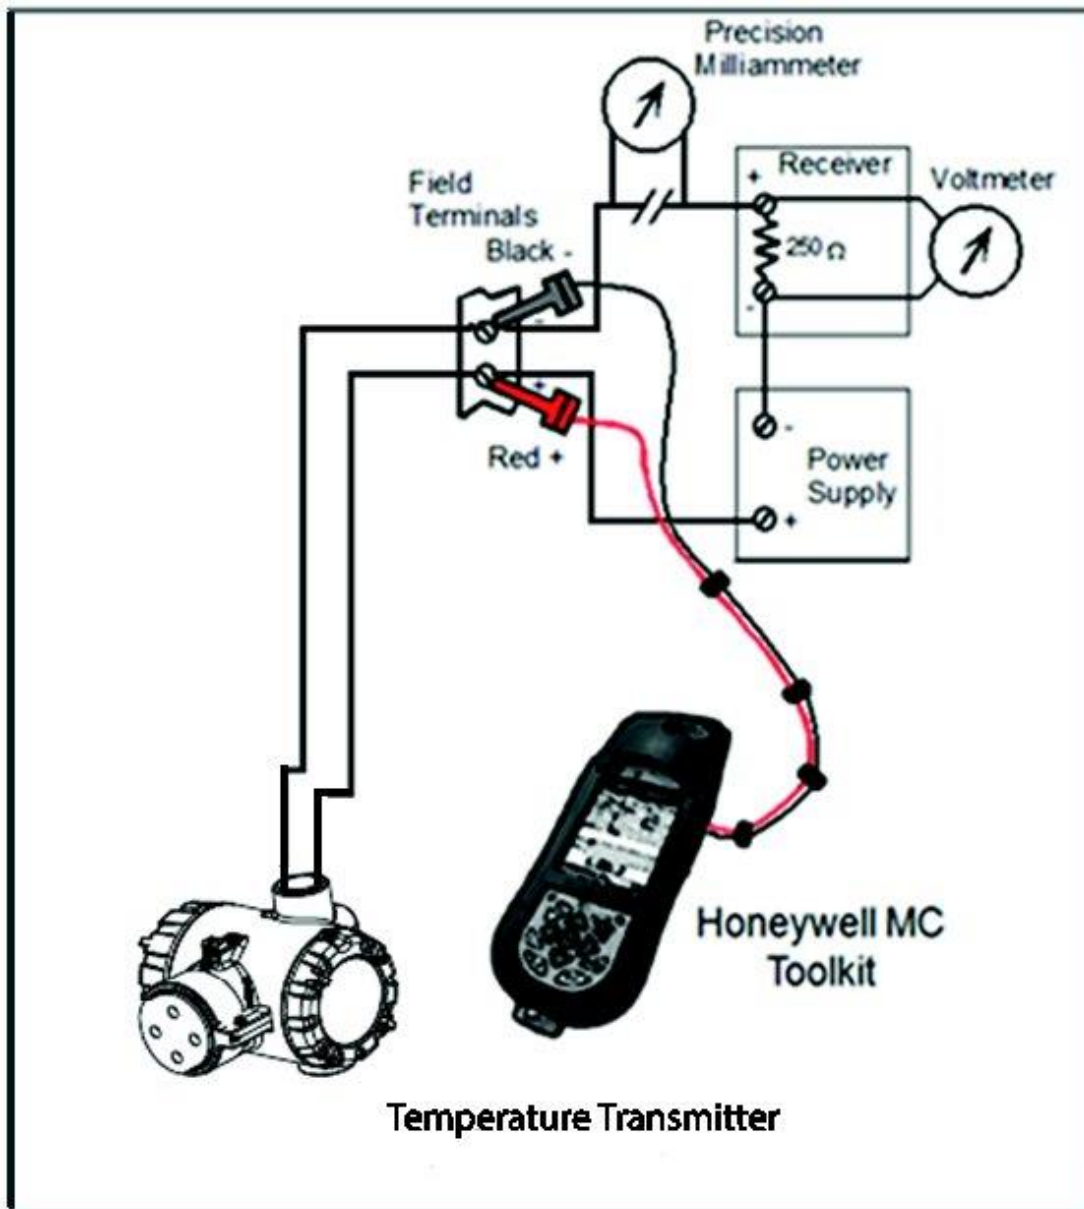

Figure 20 – Current Loop Test Connections
1. Refer to Figure 20 for test connections. Verify the integrity of electrical components in the output current loop.